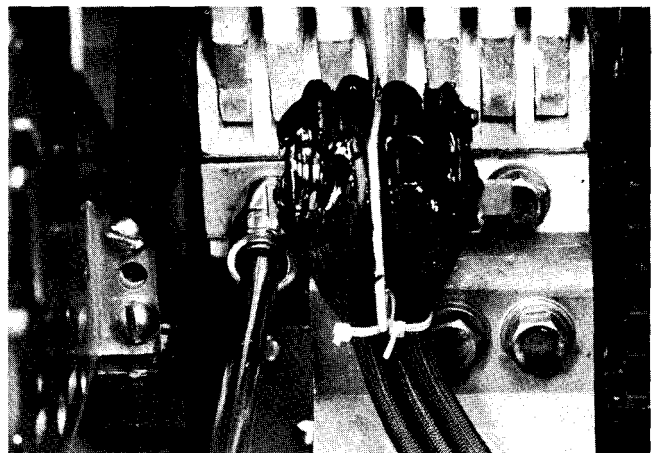

Fig. 17.
3. Remove the left hex-head bolt. Discard the plain washer, and install the switch assembly as shown in Fig. 17, using bolt and lockwasher. Torque the bolt to 30 inch-pounds while holding the unit in the correct position.